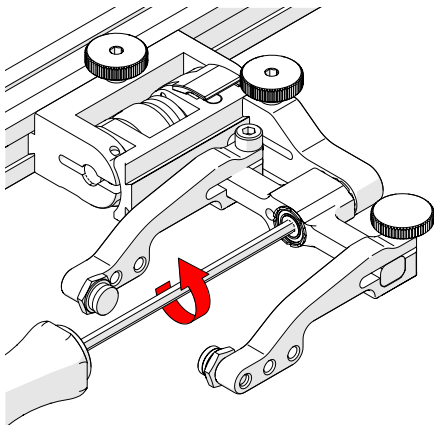

Fig. 183 - Unscrew yoke pivot screw
1. Unscrew the yoke from the swing arm (*Fig. 183*).